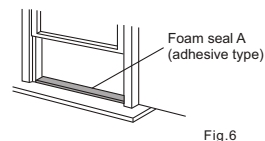

Fig.6
1. Trim foam seal (with adhesive) to the proper length and attach to window stool. Fig.6.